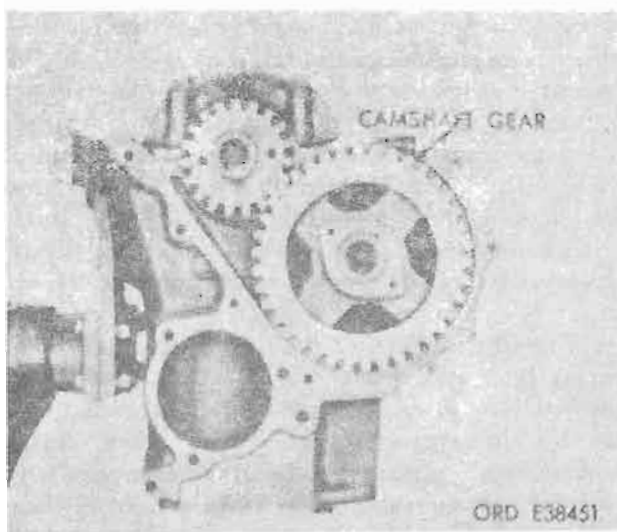

Figure 4-242. Camshaft thrust plate.
(3) *Camshaft thrust plate.* Align bolt holes in thrust plate with two tapped holes in cylinder block, behind camshaft gear, and insert two hex-head 5/16-18x5/8 thrust plate retaining screw and washer assemblies. Tighten retaining bolts to 10-15 lb.-ft. torque (fig. 4-242).